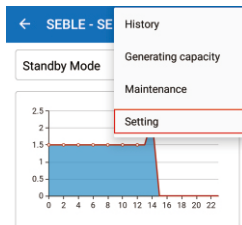

Figure 5.21 APP homepage setting
Step 2 Click the Extension key, and select Setting in the prompt manual, as shown in Figure 5.21.